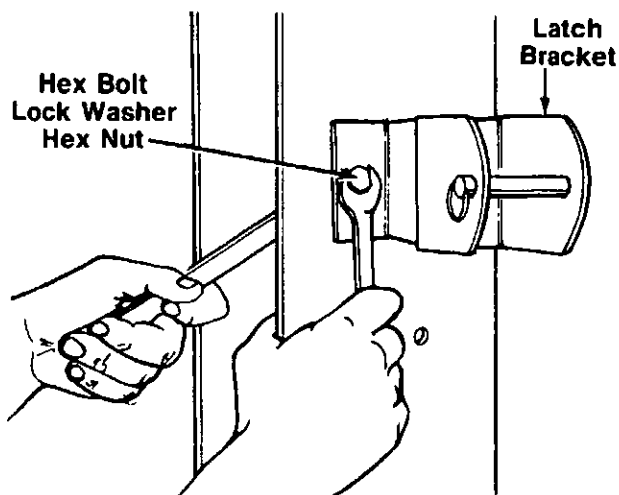

FIGURE 6.
2. With the beam still in the upright position, place the pivot latch on the beam as shown in figure 6.